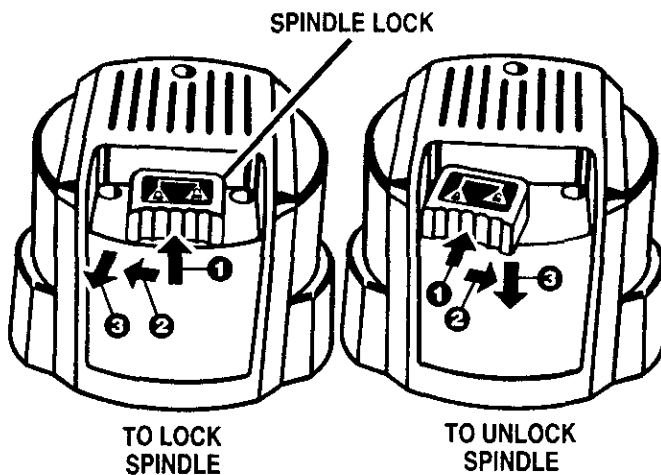

Fig. 2
See Figures 2, 3 and 4.
■ A spindle lock is located on the top of the end cap. See Figure 2. To activate lock, (1) push spindle lock in, (2) slide into lock position, then (3) release spindle lock.
Place spindle lock back in unlock position. Otherwise, interlocking mechanism of spindle lock will not let you turn your router on. To unlock spindle, (1) push spindle lock in, (2) slide into unlock position, then (3) release spindle lock. See Figure 2.